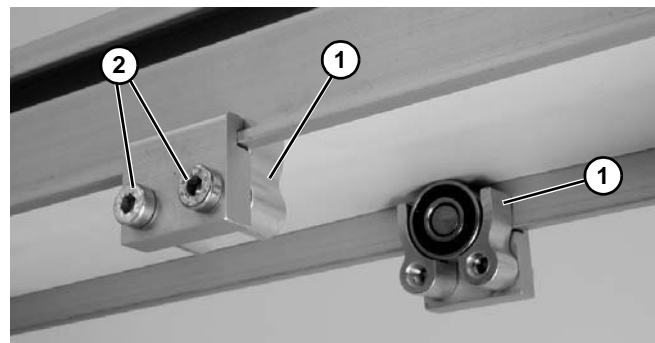

Figure 19
3. Install roller assemblies (**Figure 19, item 1**) as shown. Tighten screws (**Figure 19, item 2**) to 60 in-lb (7 Nm).